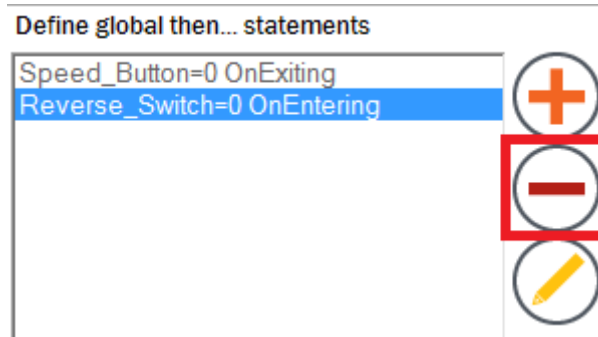

Figure 184. Delete global action
- Actions are removed by selecting the condition and clicking the "Delete" button (Figure 184).